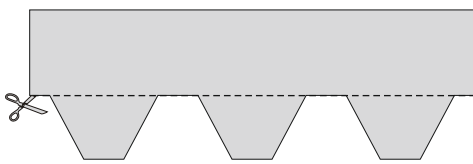
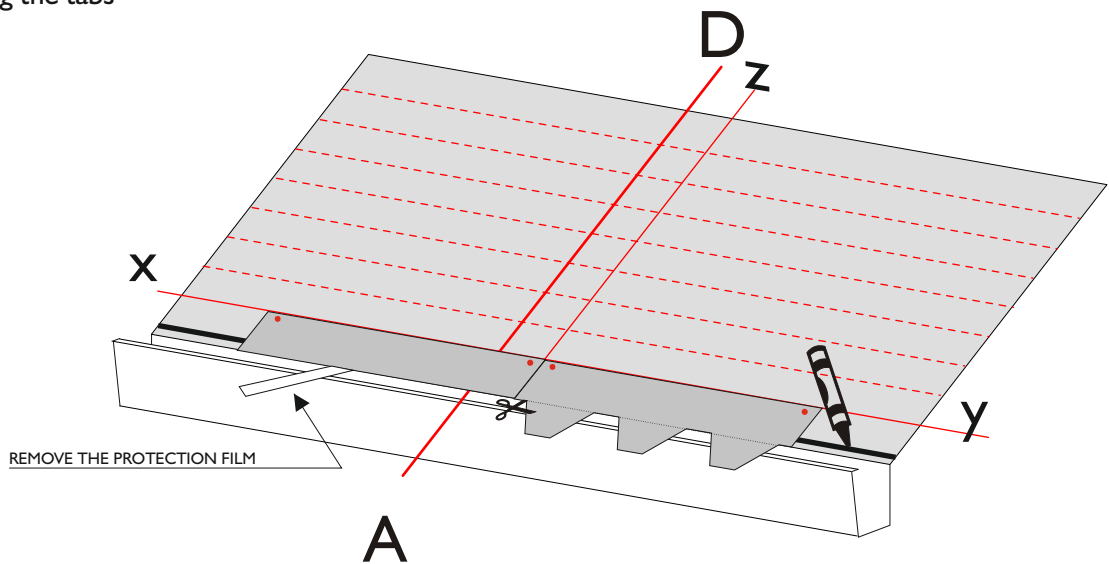

Fig. 2 Trimming the tabs
Fig. 3 - Installation of the starter course
- Apply a line of bituminous mastic “Bitustick” along the eaves (Fig. 3); trim the tabs from the bituminous shingle, remove the protection film to form the starter row (Fig. 2) and align it to the line z (see Fig. 3).